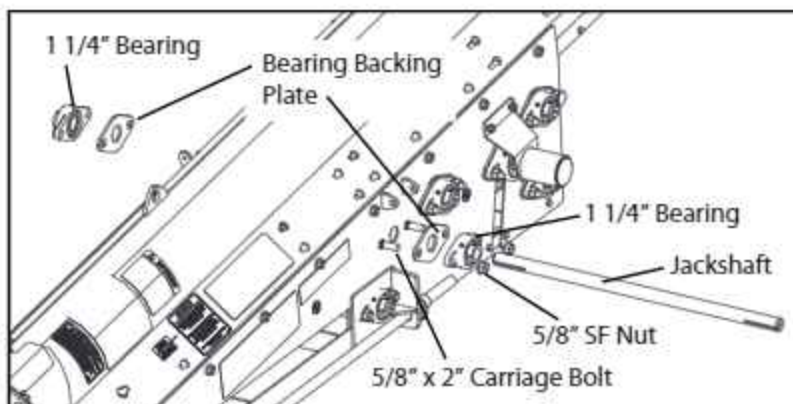

FIG. 3-53. Jackshaft Installation
1. Loosely attach a 1 1/4" Bearing and Bearing Backing Plate on both sides of the S-Drive where shown in Fig. 3-53. Use 5/8"x 2" carriage bolts and serrated flange nuts. Do not tighten the nuts yet.